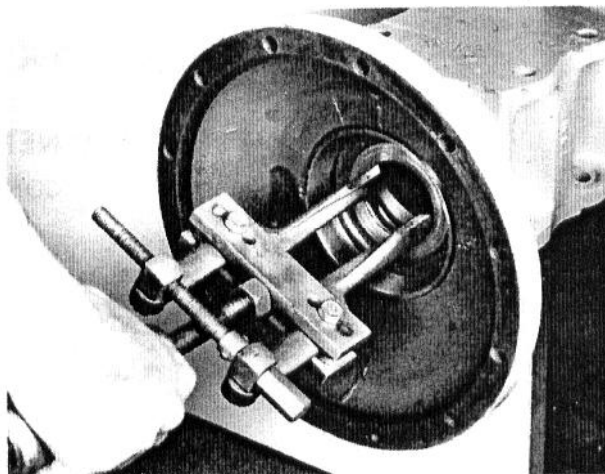

Fig. 3 - Oil Seal Removal
4. Remove the axle shaft outer oil seal if inspection shows damage or excessive leakage. Refer to Fig. 3.